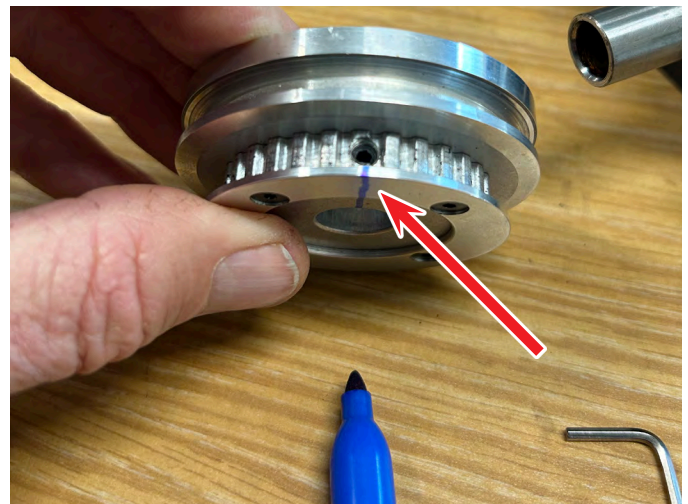

FIGURE 2
2. With a marker, draw a line from the set screw to the center bore on the cog pulley assembly (P/N 43230E for the Morse #1 headstock or P/N 43234E for the 3C headstock) (see Figure 2).